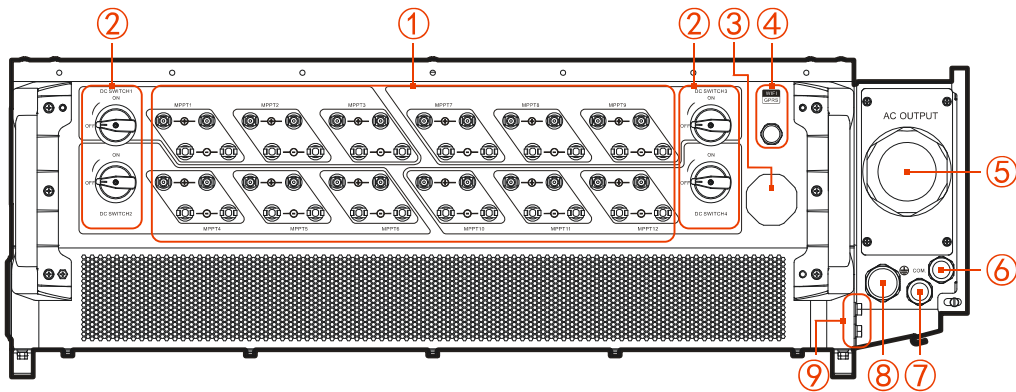

Figure2-5 Bottom layout
The inverter's bottom layout is shown as Figure2-5.
The DC switch (the position is shown as ② in Figure2-5) is the connection switch between the inverter and the PV string, when necessary, it can safely disconnect the connection of the inverter and the PV string. In order to ensure the safety of the operator, make sure that the DC switch is turned off under the following conditions:
WIFI/GPRS communication is mainly used for remote monitoring, and the running information of the inverter can be monitored through APP on mobile phone or energy cloud on PC. WIFI/GPRS interface is shown as ④ in Figure2-5.